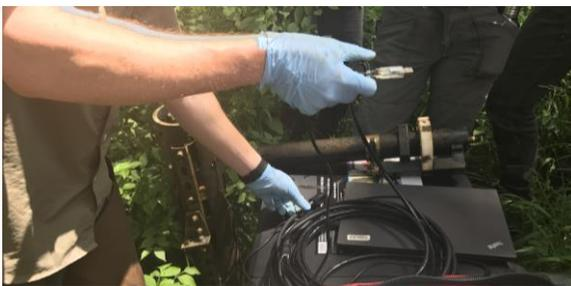

Figure 23. Attach USB Connector to Laptop
**STEP 7 |** Attach the USB end of the cable assembly to the field laptop computer (**Figure 23**).